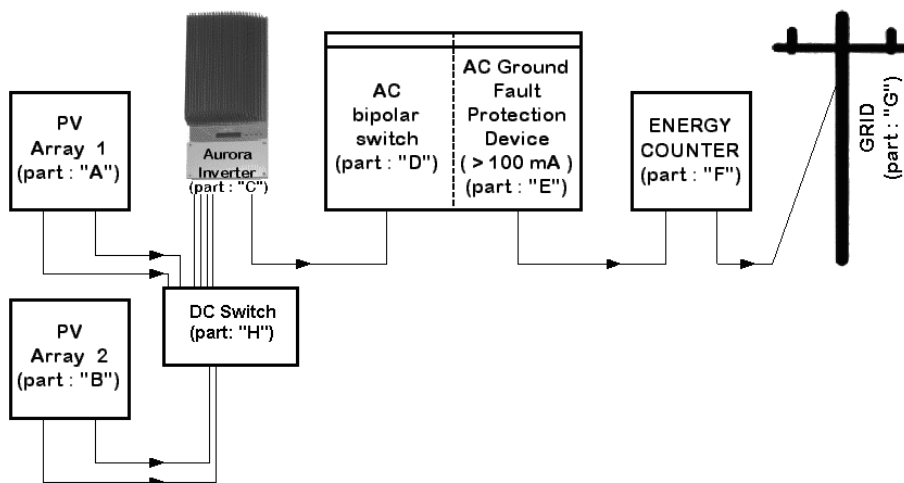

Fig. 10 - Electrical Connection Diagram (-US models)
STEP 1 If the inverter is connected to the AC Grid (Fig. 18- Inverter Terminal Block for AC Connection – pos. "1", "2" and "3") DISCONNECT the inverter from the AC Grid by opening the switch indicated as Part "D" in Fig. 10- Electrical Connection Diagram.
STEP 2 Disconnect the DC side external switch indicated as part "H" in Fig. 10.
Step 1: Disconnect from the AC Grid by turning off the "AC Bipolar Switch" – Part "D" in Fig. 10.